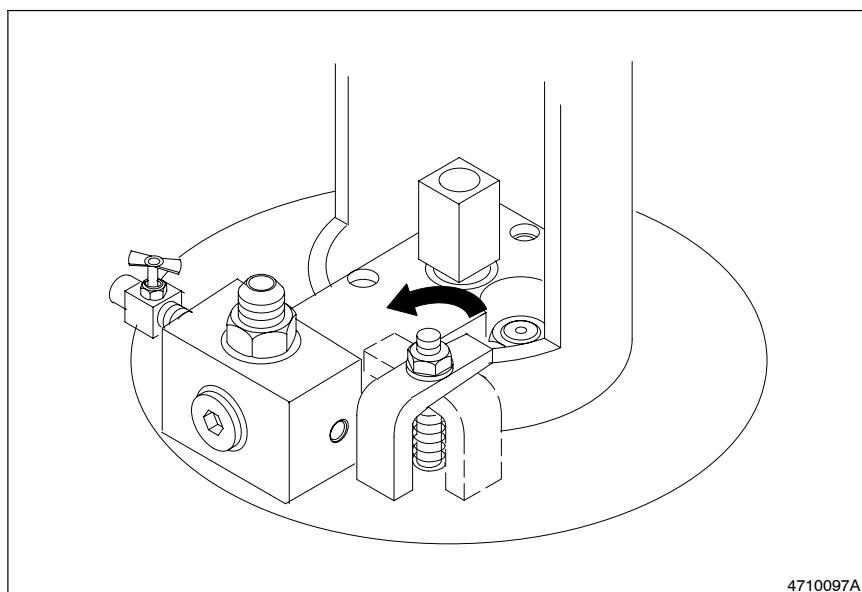

Fig. 7-34 Repositioning the Manifold Clamp
3. See Figure 7-34. Reposition the manifold clamp until it secures the manifold in place. Tighten the manifold clamp nut.